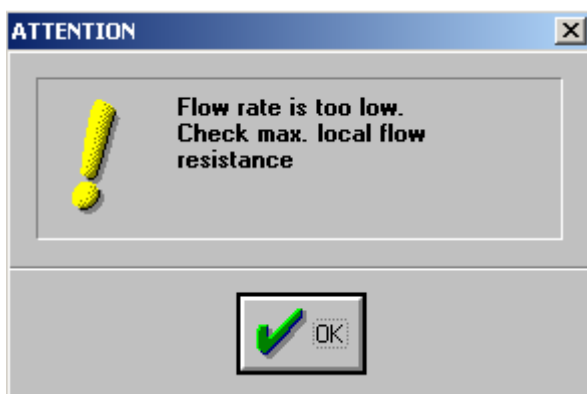

Figure 24.
- Difference of pressure between inlet and outlet of pipeline is positive, but for some reason – high viscosity of media or small cross-section of pipeline elements, low pressure of pump, etc. – flow rate of media is lower than 1/100 of the **Flow capacity** value in the project input. In this case the program interrupts calculation and provides the corresponding message (Figure 24).